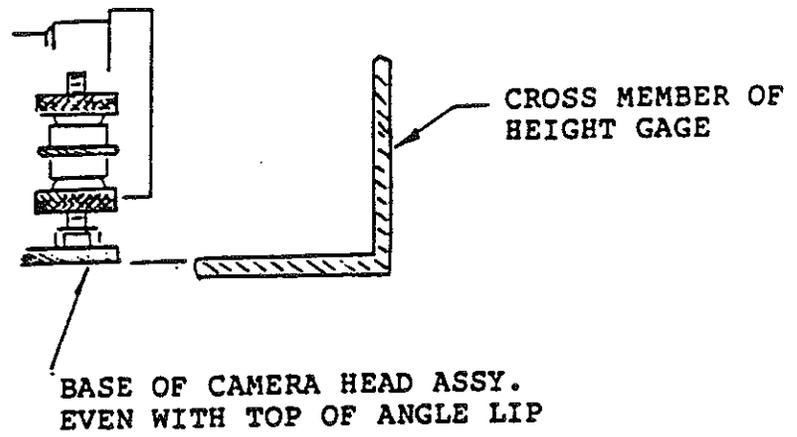

FIGURE 5
- 3.3 Position the height gauge across the ball return capping as illustrated in Fig. 5. While raising the camera head to a position above the height bar, slide the bar under the lower front lip of the camera so that the head is supported by the bar (Fig. 3-A).